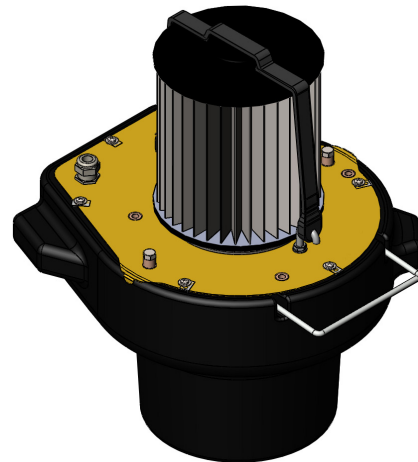

FIG. 11
Carefully install the GORE® CleanStream Pro HEPA Filter (C) onto the ring and then slip filter retainer strap (F18) to secure. [FIG 11]